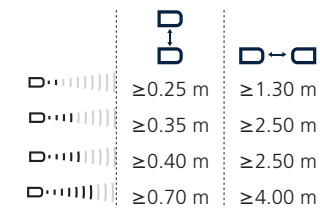

Fig. 2: Assembly distances
- The assembly distances in fig. 2 for two or more sensors should not be fallen below in order to avoid mutual interference.